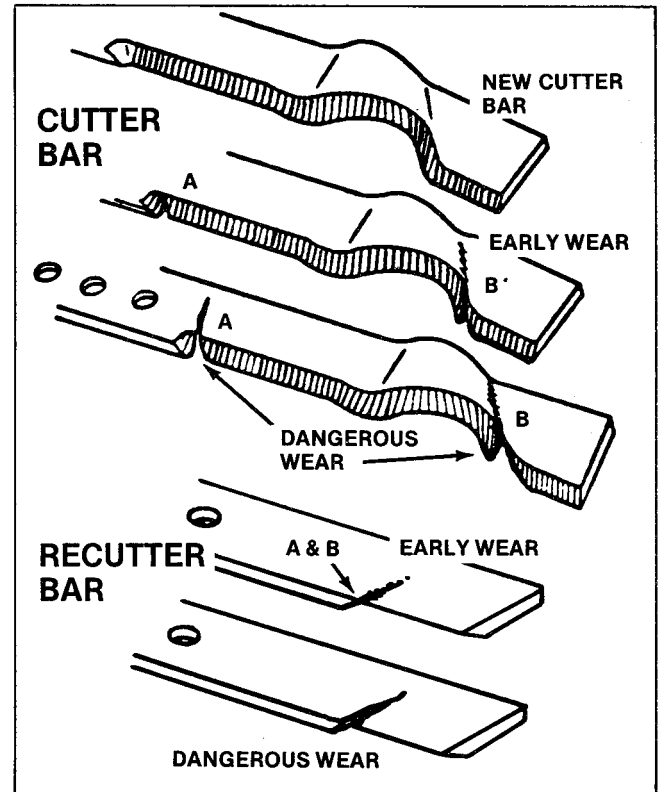

FIGURE 13
2. The blade ends of both bars should be inspected for cracks developing at points marked "A" and "B" in Figure 13. These are transition points, either from unsharpened to sharpened edges, or from rounded to flat areas of the blade. Abrasive particles cause cracks by wearing the steel during mowing. At the first sign of a crack, the cutter bar or recutter bar should be replaced.